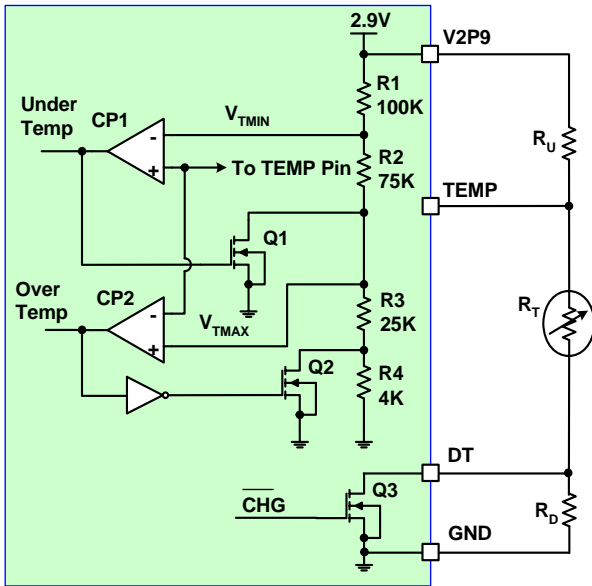
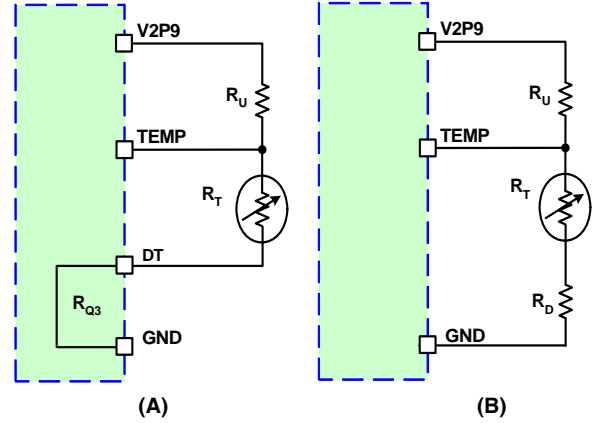

FIGURE 9. THE INTERNAL AND EXTERNAL CIRCUIT FOR THE NTC INTERFACE
FIGURE 10. EQUIVALENT CIRCUITS FOR THE NTC DIVIDER (A) BEFORE CHARGING STARTS (B) DURING CHARGING
Figure 9 shows the internal circuit for the ambient temperature sensing function. Two comparators form a window comparator whose high-threshold is V_{TMIN} and low-threshold is V_{TMAX} . These two thresholds are given in the Electrical Specifications. The two MOSFETs (Q1 and Q2) create a hysteresis for each comparator, respectively. The DT pin is shorted to GND via the internal Q3 MOSFET when the charger is not charging, resulting in the equivalent circuit shown in Figure 10 (A). The on-resistance of Q3 is typically 50Ω and is negligible compared to the external resistors. When the charger starts to charge, Q3 is turned off to set a higher temperature range determined by the external resistor R_D . The equivalent circuit is shown in Figure 10 (B). The DT pin provides a higher shut down ambient temperature during the charger operation.
As the temperature falls, the TEMP pin voltage rises. When it exceeds the 2.0V V_{TMIN} threshold, an under temperature condition exists. This condition does not clear until the TEMP pin voltage falls back below the threshold minus the hysteresis voltage (V_{TMIN-}). Similarly, an over-temperature condition exists when the TEMP pin voltage falls below the 0.714V V_{TMAX} threshold and does return to normal temperature operation until the voltage rises above the threshold plus the hysteresis voltage (V_{TMAX+}). The actual accuracy of the 2.9V supply voltage is **not important** because all the thresholds and the TEMP pin voltage are ratios determined by the resistor dividers, as shown in Figure 9.